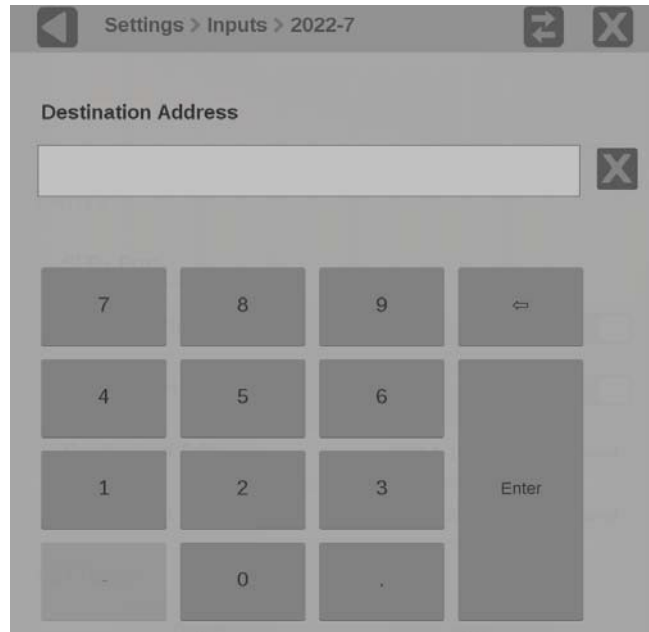

Figure 34: Editing parameter fields
5. To edit one of the parameter values, select inside the parameter box to open the editing display, as shown in Figure 34.